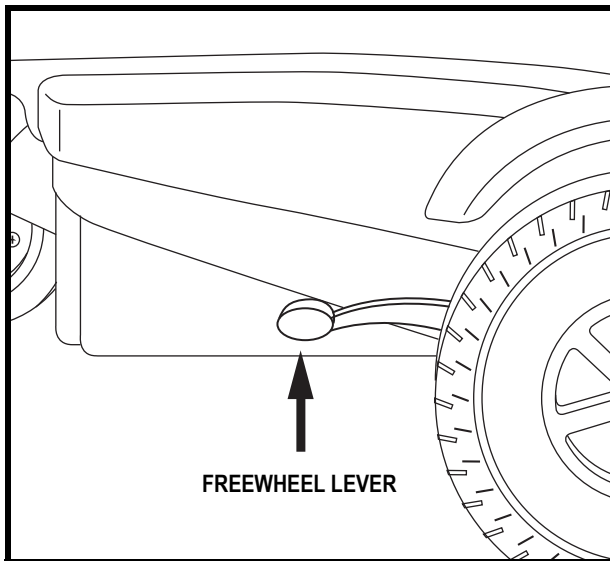

Figure 11. Drive Mode (Drive Engaged)
2. Pull both levers upward to engage the drive motors (drive mode). See figure 11.
3. Make sure that the power chair is in drive mode. See figure 11.